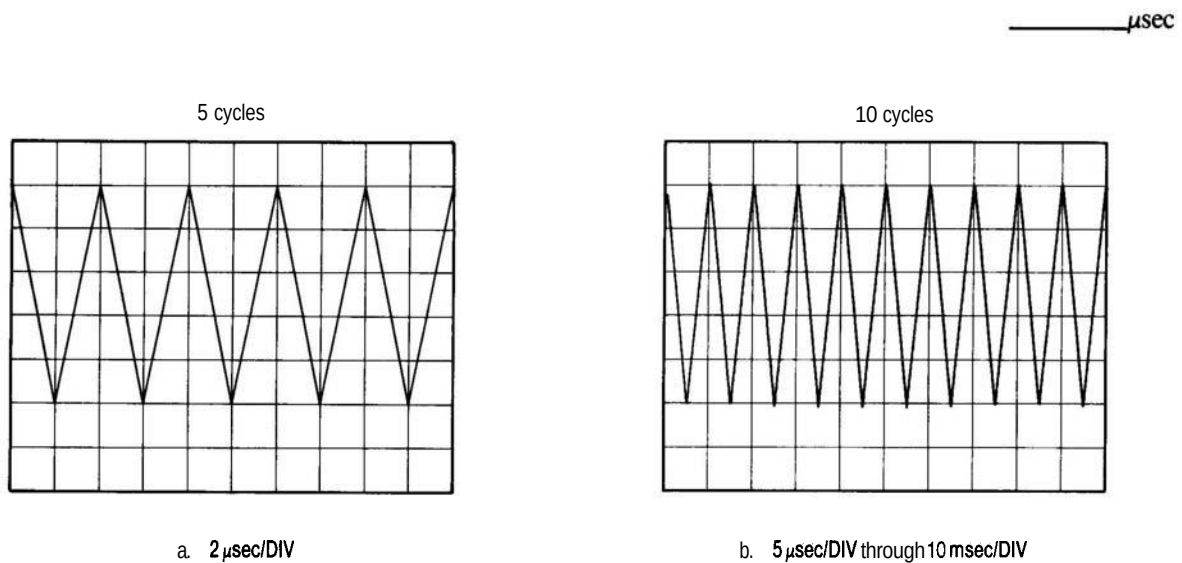

FIGURE 4-20. SWEEP TIME ACCURACY
1. Connect spectrum analyzer's CAL OUTPUT to frequency counter's 10 Hz – 500MHz (500) input as shown in Figure 4-20. Measured output frequency should be 35 MHz ±400 kHz.